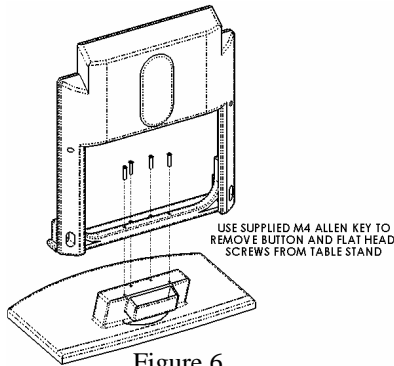
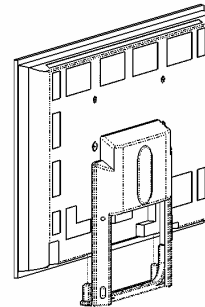

Figure 6
Figure 7
4. Secure subwoofer to back of display by sliding uprights into holes in display (see Figure 6 & Figure 7).